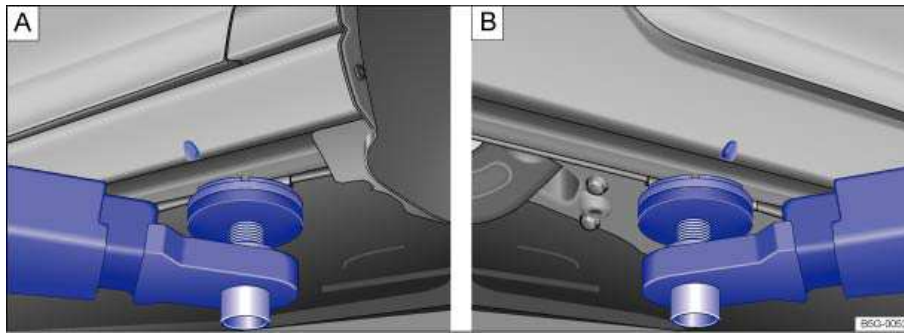

Fig. 158 A: Lifting point at the front. B: Lifting point at rear for lifting the vehicle using a workshop hoist or floor jack.
The vehicle may only be raised at the lift points shown in the illustration ⇒ fig. 158. If the vehicle is lifted at different points, vehicle damage ⇒  and serious injuries may occur ⇒ .
- Always lift your vehicle only at the designated lift points shown in the illustration ⇒ fig. 158. Not using the designated lift points can cause the vehicle to fall off the floor jack when heavy parts such as the electric motor or transmission are removed.